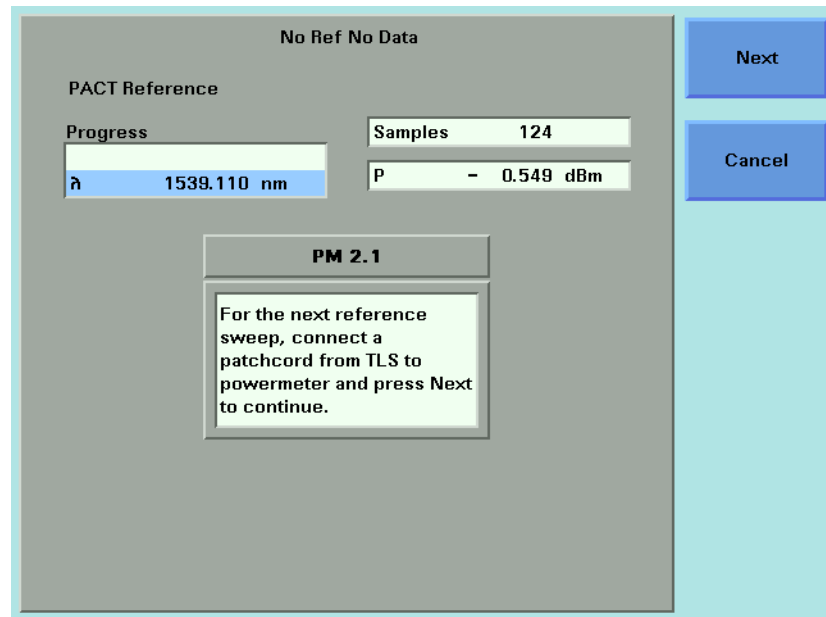

Figure 180 Connection Prompt Screen
- Press [New Ref]. A box similar to the box in Figure 180 on page -293 appears prompting you to connect a fiber to the first Power Meter channel.
If there is another Power Meter channel to reference, you will be prompted to perform this reference measurement from the user interface by a prompt box similar to the box in Figure 180 on page -293. Restart this procedure at step 20.